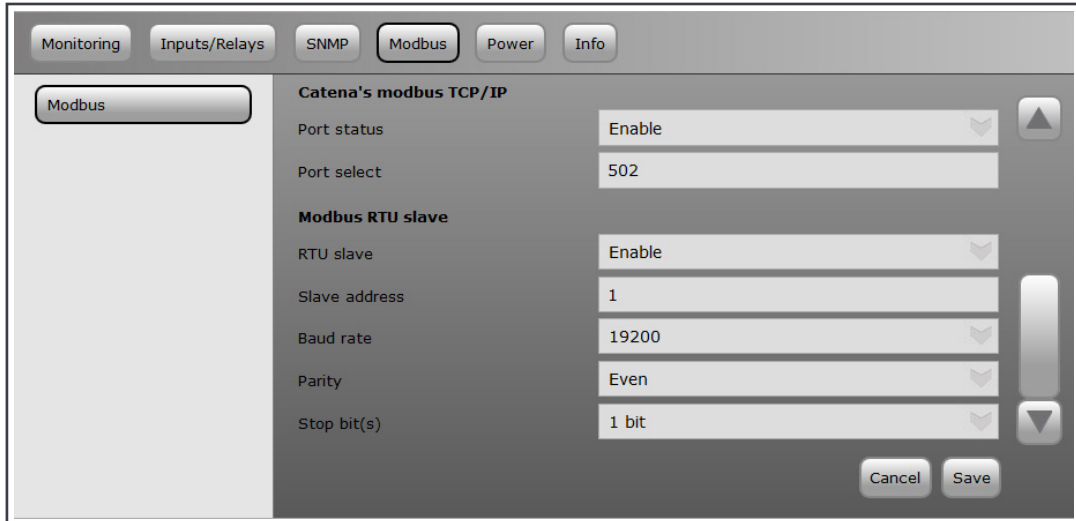

Fig 7: Modbus settings in T2S ETH
7. Verify the **Modbus RTU** parameters are matching with the **T2S-ETH** in the Modbus section (Fig 7).